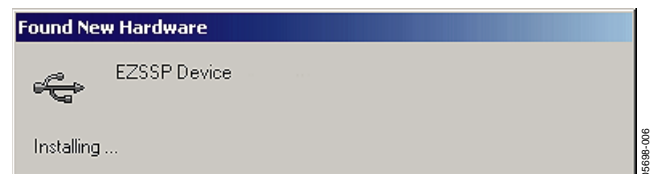

Figure 6.
6. Next, the window in Figure 6 appears.